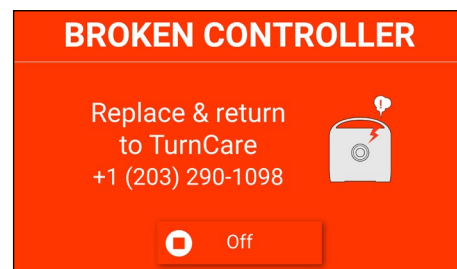

Figure 32. Broken Controller alert screen
1. If the Guardian 2 System detects a controller malfunction that is interfering with therapy, it will alert the user. The controller must be replaced immediately and returned to TurnCare. (Fig. 32)